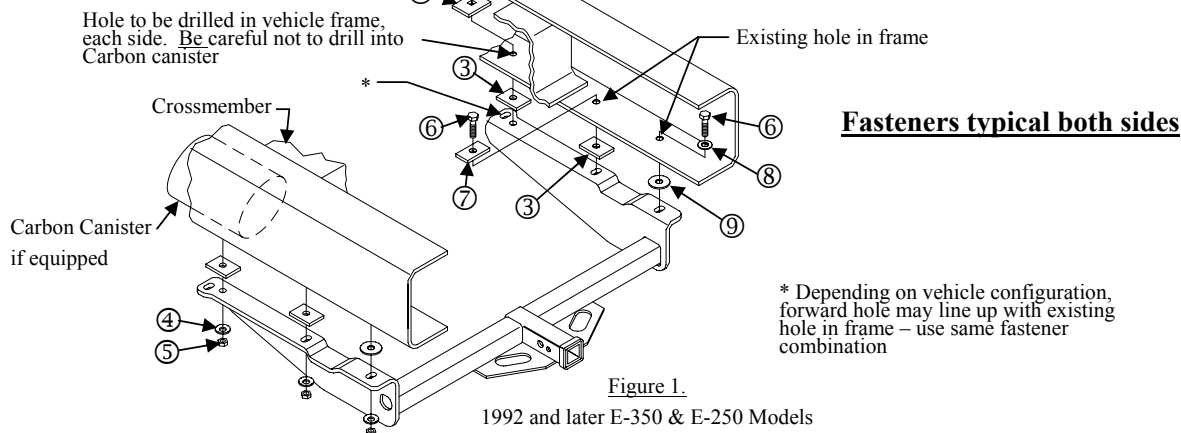

Figure 1.
1992 and Later Models – see Figure 1 & 2 Modification of vehicle exhaust may be necessary on vehicle with twin tip exhaust.
- Loosely install bolts, blocks (depending on model: see Figures 1 & 2), flat washers, conical washers and nuts.